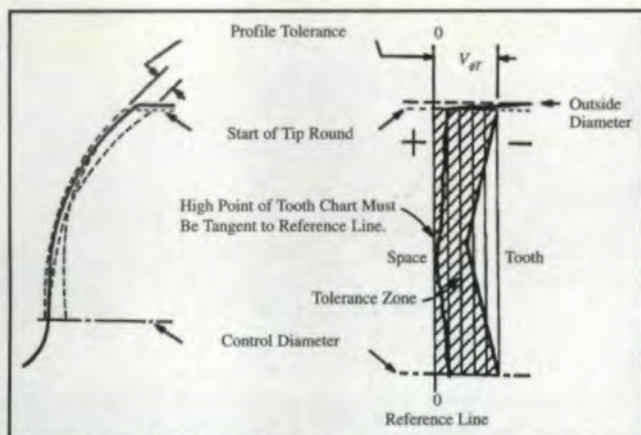

Fig. 2 - AGMA "K" Chart method of profile evaluation.
**5. "K" Charts vs. Slope, Form and Total.** AGMA 2000 A-88 uses the familiar "K" charts for the evaluation of involute and tooth alignment (lead) data (see Fig. 2). ISO 1328-1 uses a rectangular tolerance zone in the main body of the standard for "total" deviation. However, an informative annex uses "slope" and "form." The problem with AGMA "K" charts and the rectangular tolerance zone of ISO is that they are like "go/no go" gages. They are not useful for today's statistical process control techniques. Also, the zones are wide enough to allow for the effects of runout on the profile or lead errors. For this reason, they are not very discriminating as far as determining the real involute or lead errors, independent of runout. The technique described in ISO 1328-1 allows the determination of slope and form deviations. These are useful for the determination of factors that have an influence on functional characteristics of the gears. For example, slope and mean slope are useful for the